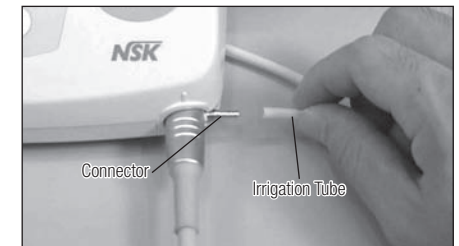

Fig. 10
- 3) Insert firmly the Irrigation Tube deep into the Connector. (Fig. 10)